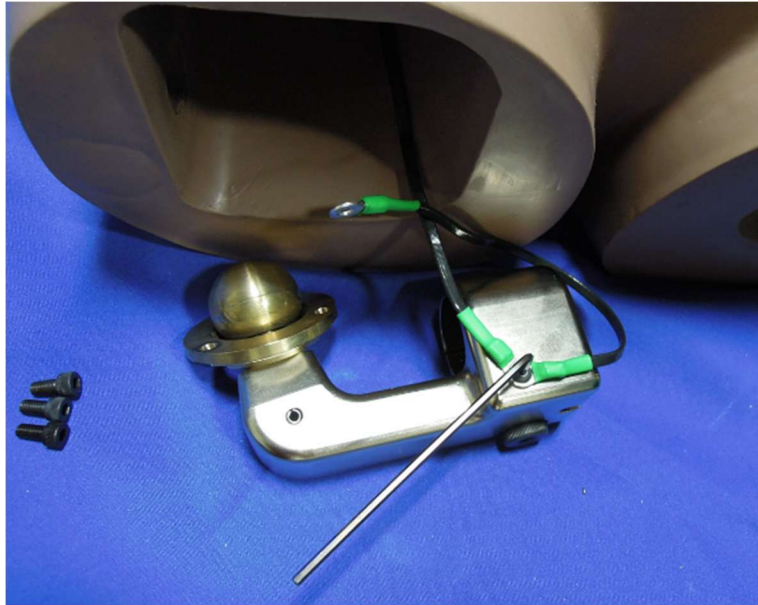

Figure 8-6. Remove the ground cable from the Femur Assemblies
8.2.3 Remove the ground cable from the Femur Assemblies (Figure 8-6).